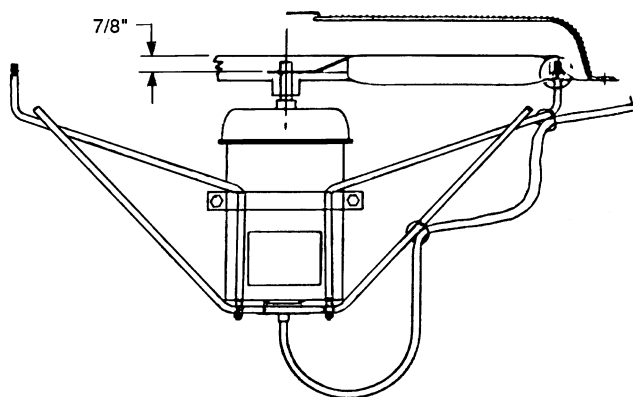

Fig. 86 — Condenser-Fan Adjustment
- See Fig. 86 and adjust fan height using a straight edge laid across the fan deck.